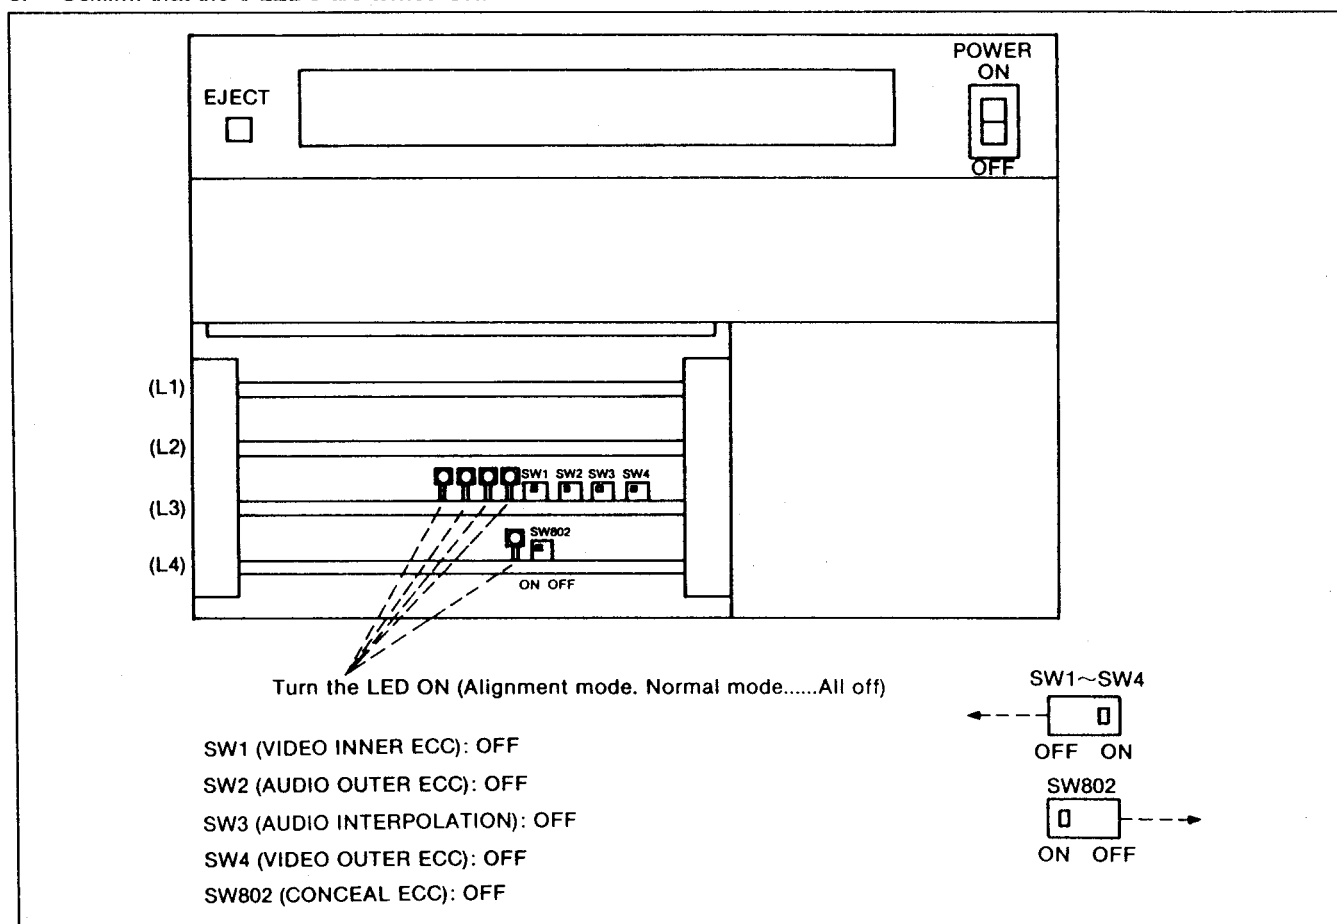

Figure 2.
1. Set the SW1, 2, 3 and 4 on the L3 P.C.B. follow the Figure 2.
2. Set the SW802 on the L4 P.C.B. follow the Figure 2.